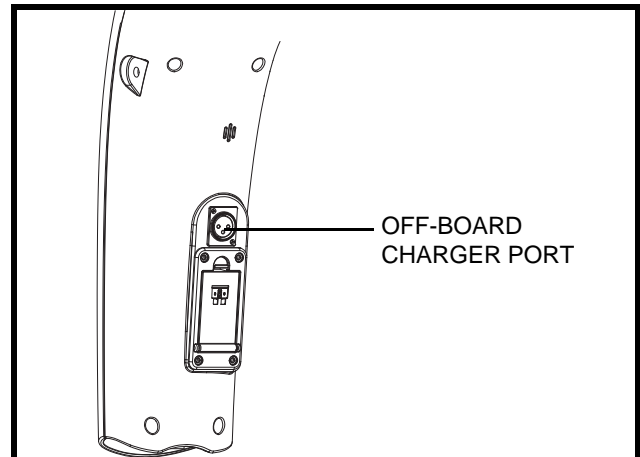

Figure 6. Off-board Charger Port (Tiller Mounted)
The off-board charger power cord plugs into this port during battery charging. The off-board charger port will be located on the tiller. **See figure 6.**
4. Plug the 3-pin charger power cord into the off-board charger port. **See figures 6 and 11.**